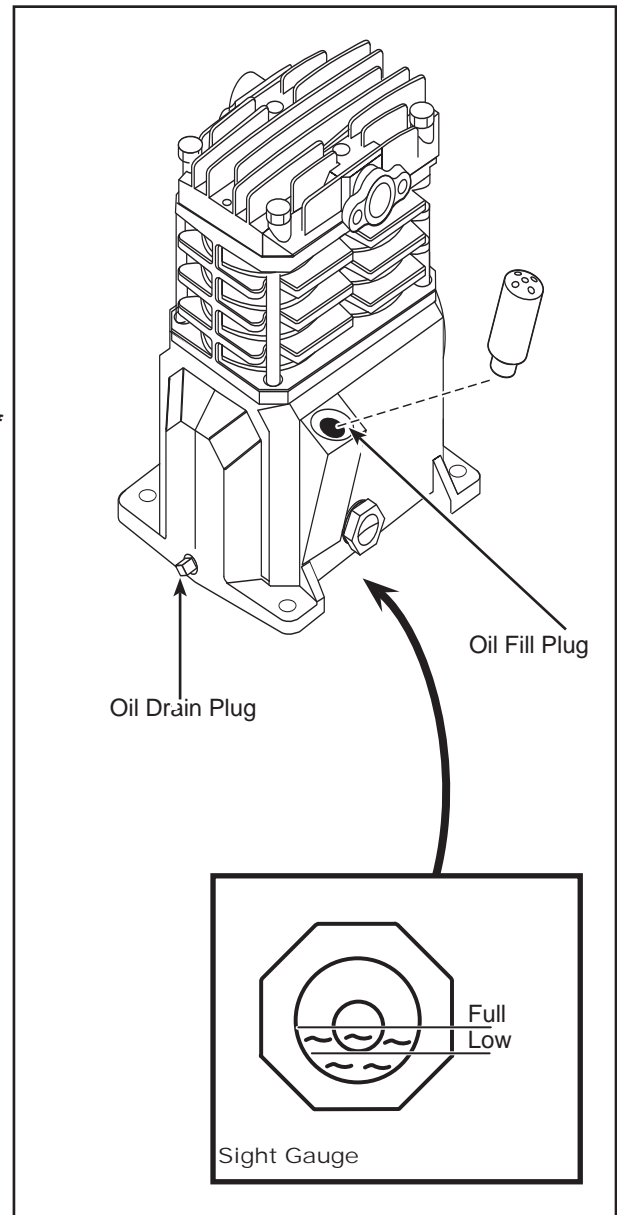

Figure 2 - Lubrication
Remove cap from oil fill opening. Install breather (found in parts bag with this manual). See Figure 2. Check oil level. See specification label on compressor pump for the proper oil capacity and oil type.
This pump has an oil sight glass as shown in Figure 2. Oil level can be monitored and maintained as shown in Figure 2.
*Before operating compressor, fill to the center of the sight gauge (see Figure 2).*
Fill the pump with oil to the center of the sight gauge using oil fill opening (see Figure 2). **Do NOT fill the pump through the breather cap opening as this may cause oil to leak and spray out during operation.**